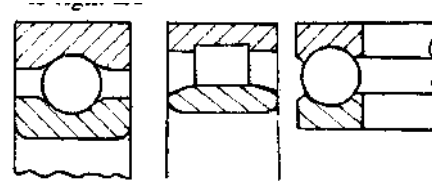

Fig.4.2.
5. The three bearings shown in Fig.4.2 from left to right are